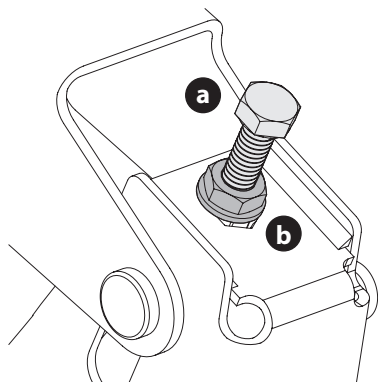

Figure 34
3. Locate the adjustment bolts (a) on the left and right side of the deck (Figure 34).